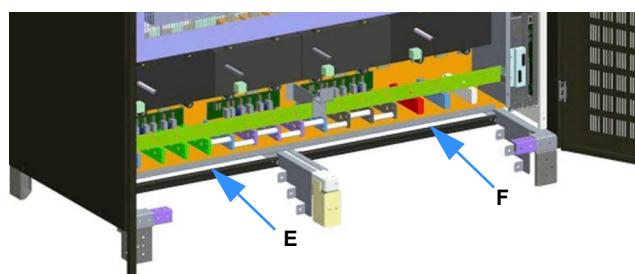

Figure 3.14
5. Fit two cable support bars (E), (F) between the rear-most lugs on profiles (A), (B), (C) as shown in Figure 3.14. Secure each bar using two M5 nuts and bolts tightened to 6.0 Nm.